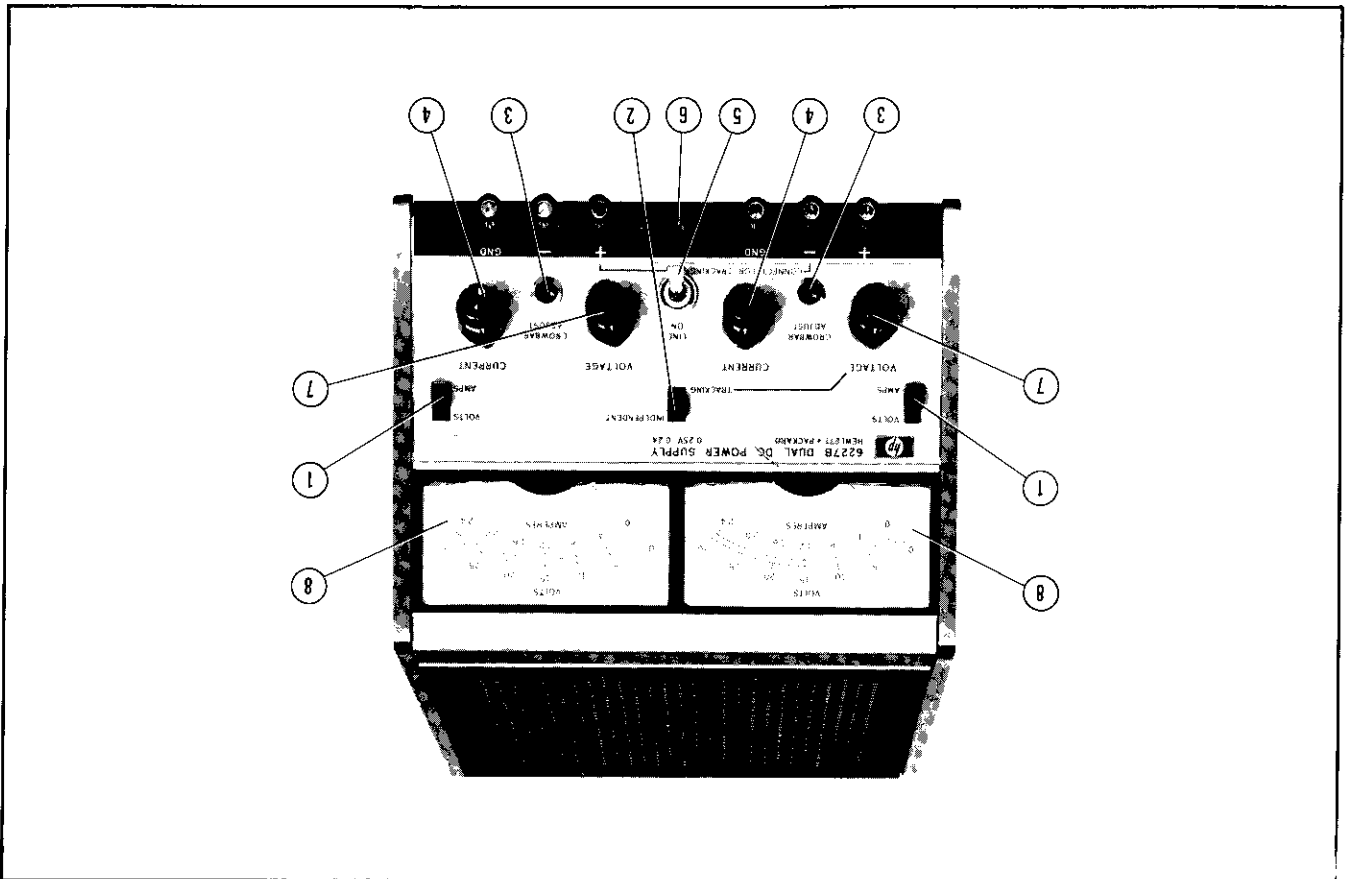

Figure 3-1. Operating Controls and Indicators
- 3-2 The following checkout procedure describes the use of the front panel controls and indicators (Figure 3-1) and ensures that the supply is operational. This procedure should be performed with no load connected to the supply.